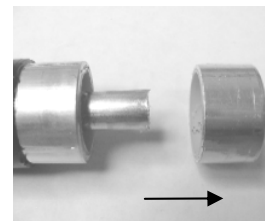

Figure 3
- 3) **Remove 0.6" (1/2" cable) or 1" (5/8" & 7/8" cables) of jacket. Remove 2.25" of jacket & tape** (for riser rated cable) using knife-box cutter (Figure 3). (Tool required: Knife-Box Cutter)